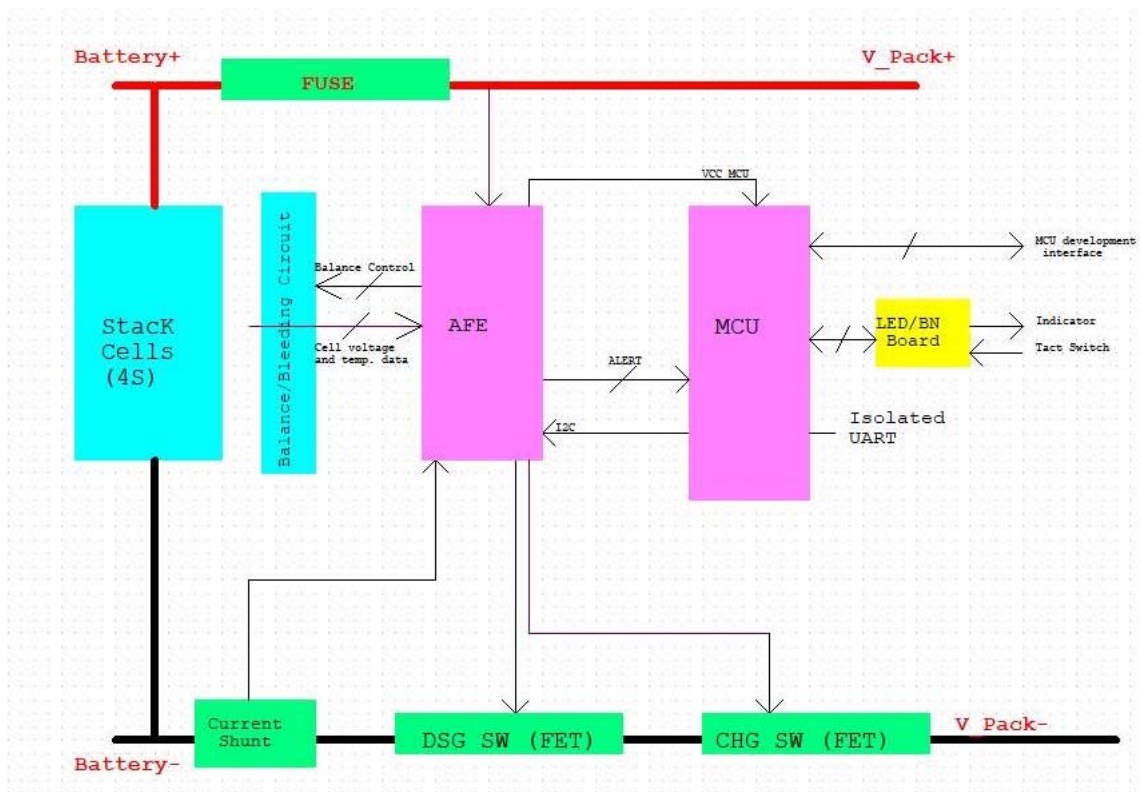

Figure 2 ALE 12V7 Series Battery Block Diagram
- Figure 2 ALE 12V7 Series Battery Block Diagram 10
Each ALE 12V7 Series battery has integrated protection and balancing circuitry (Figure 2) that safeguard the battery from over-voltage, under-voltage, short-circuit and over-temperature conditions. At the core of the ALE 12V7 Series are eight Lithiumwerks ANR26650 cells in a four-series, two-parallel (4S2P) configuration.